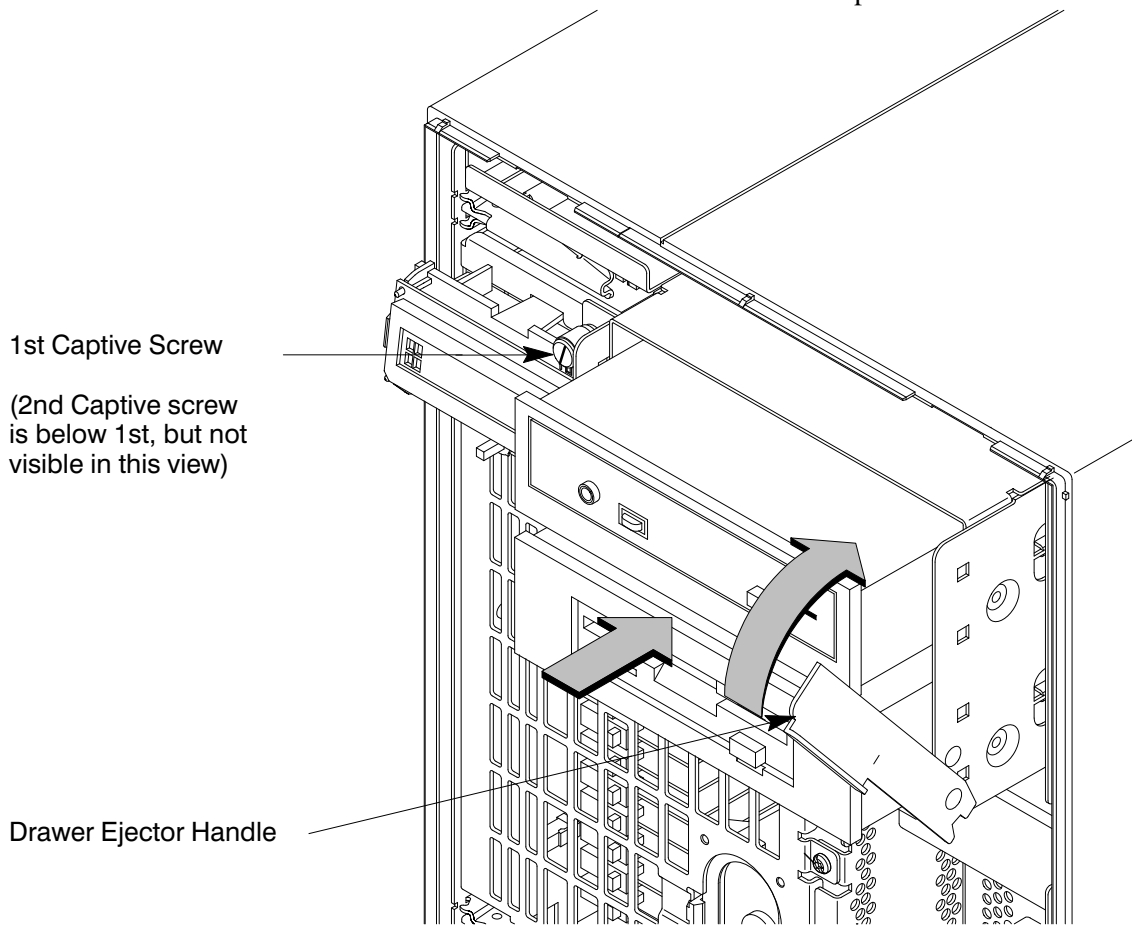

Figure A-14. Replacing the Storage Drawer Assembly
- 15.** Push the drawer ejector handle up until the Storage Assembly slides all the way into the system unit and secure the two captive screws on the left of the Storage Assembly, as shown in Figure A-14.